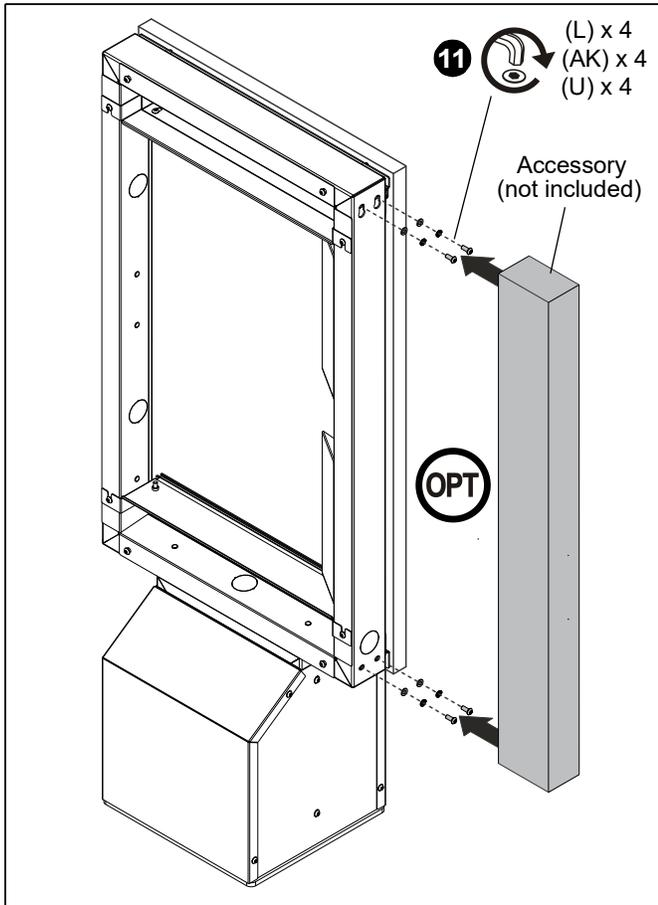

Figure 32
- 10. OPTIONAL:** Install accessories to the side of the frame(s). Loosen the M8 x 20mm security screws (L), 8mm washers (R), and 8mm lock washers (N) installed in sides of frame(s) to hang components. Re-tighten hardware once accessories have been secured. (See Figure 32)